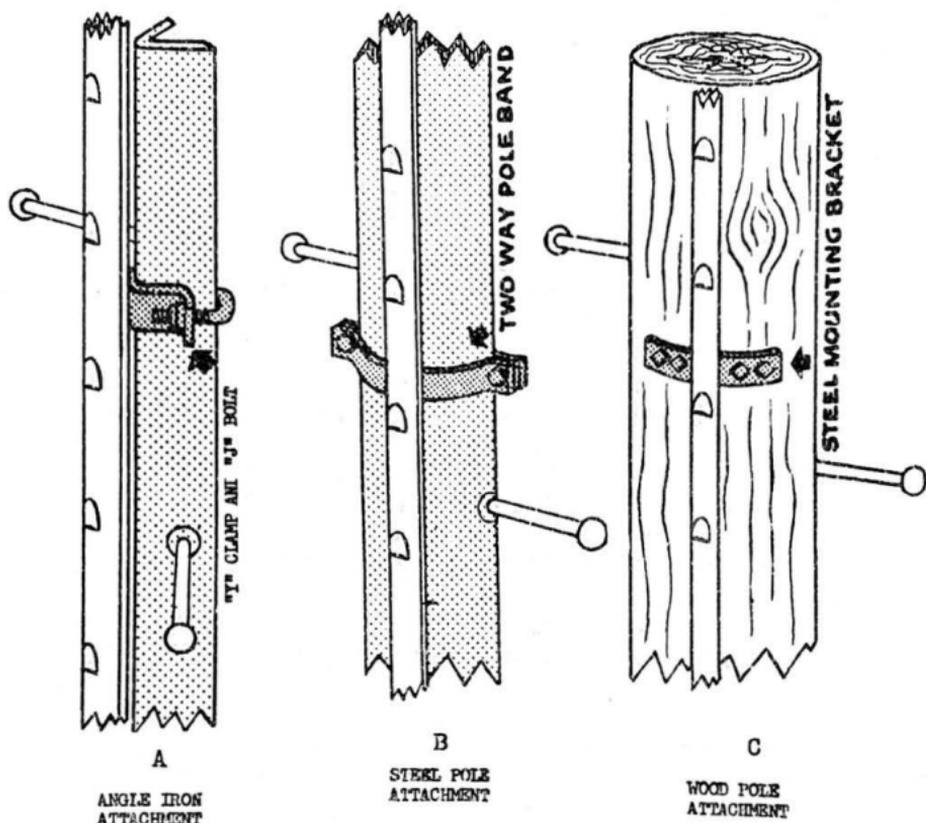

FIG. 6
3.13 Attach carrier rail on stepped structures as illustrated in Figure 6.